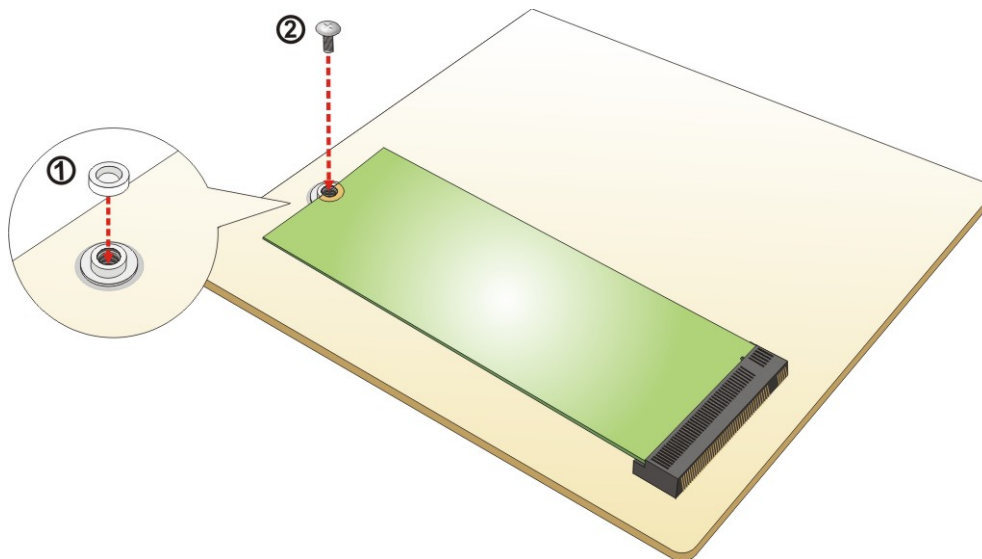

Figure 4-4: Securing the M.2 Module
Step 4: Put the plastic ring onto the screw holes. Push the M.2 module down and secure it with the previously removed retention screw (**Figure 4-4**).